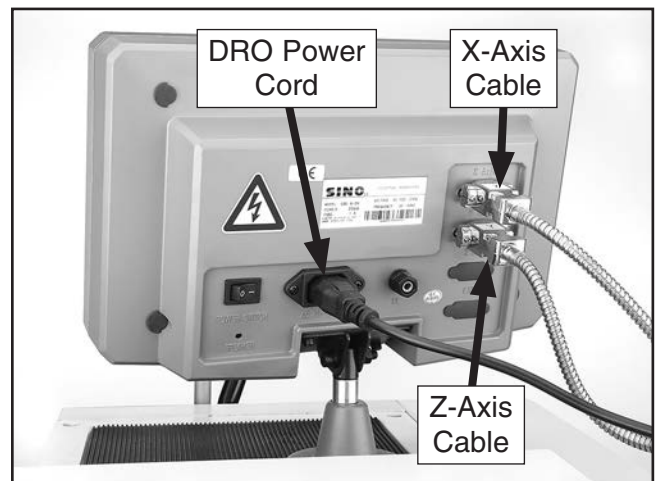

Figure 20. DRO electrical connections.
2. Connect X- and Z-axis cables and power cord to back of DRO unit, as shown in **Figure 20**.